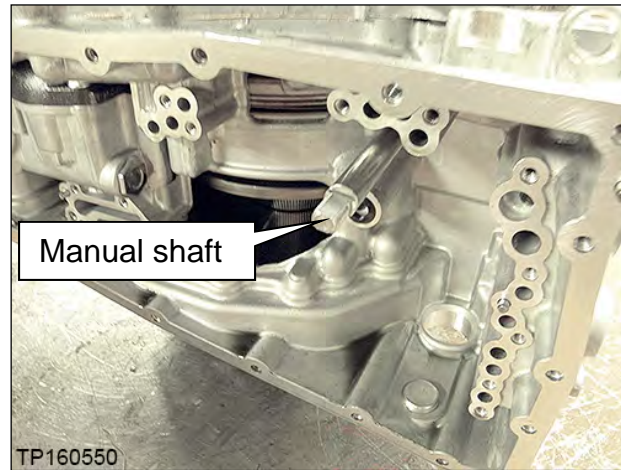

Figure 73
- Do not hit the manual shaft (Figure 73) while flipping the CVT; the manual shaft protrudes past the CVT case. Use a plastic / wooden block to support as needed.